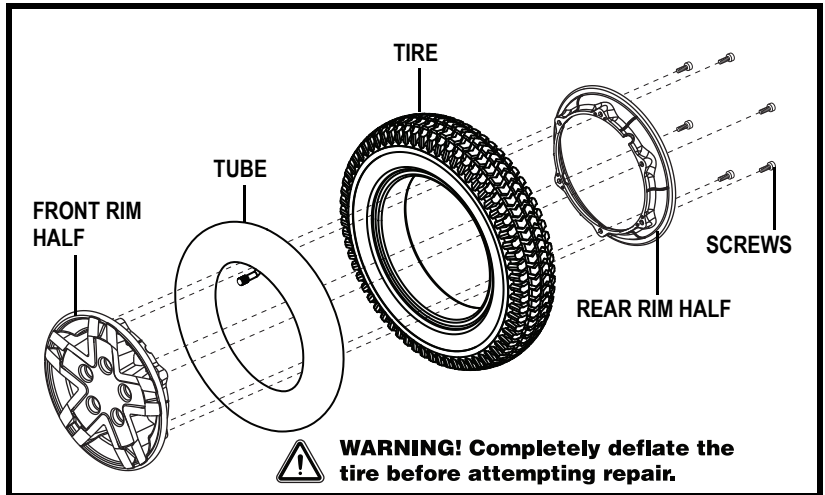

Figure 24. Quantum Q4 Drive Wheel Disassembled
6. Remove the screws and separate the front and rear rim. See figure 24.
10. Reinstall the five (5) lug nuts onto the wheel hub and tighten.